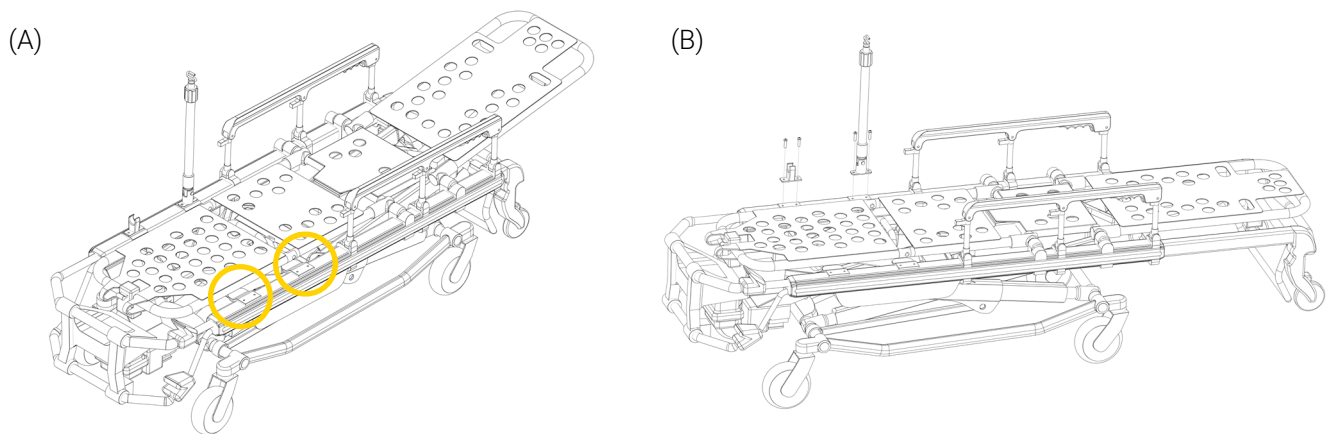

Figure 5: Preparing the stretcher
3. Remove the four (4) screws on the rail, patient left (Figure 5 A). The screws will not be reused for this specific installation.
4. Remove the IV pole and its holder (Figure 5 B). They will not be reused for this specific installation.